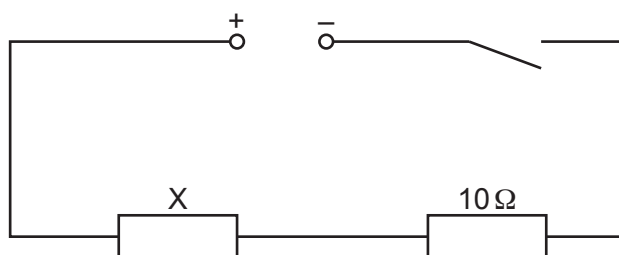

Figure 3.1
- (vi) Sufficient connecting leads to set up the circuit shown in Figure 3.1.
- 1 The supervisor must set up the circuit shown in Figure 3.1 for the candidates in advance of the examination.
The circuit must be restored to its original state, as shown in Figure 3.1, with the switch open and the $10\ \Omega$ resistor in the circuit with the additional resistors placed by the side of the circuit.